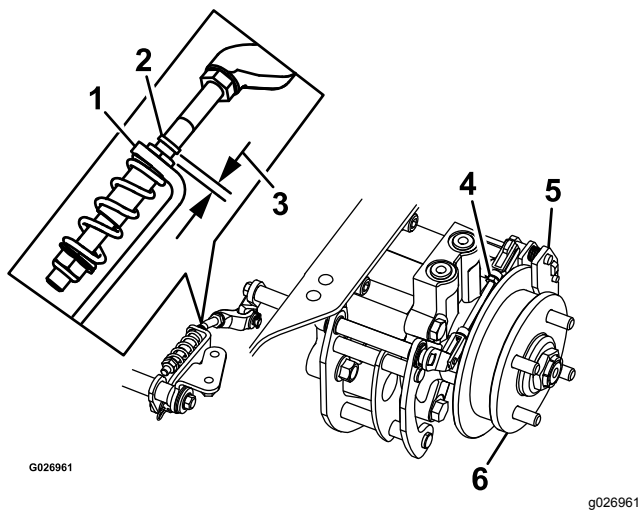

Figure 79
8. Check to see if there is a visible gap between the L-bracket and the linkage stop (Figure 79).